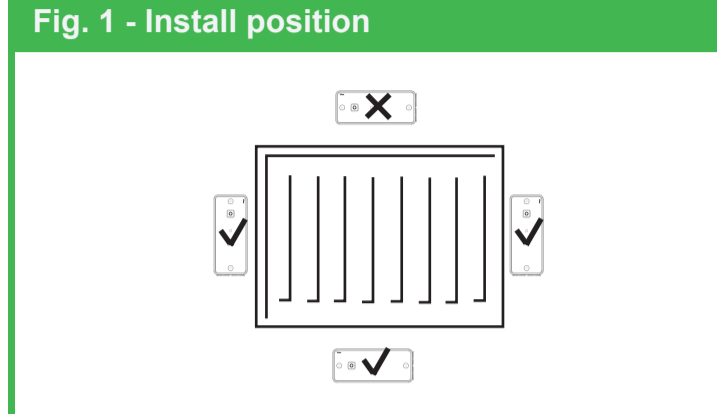

Fig. 1 - Install position
- The 16 Amp Relay must be installed below or to the side of any heat source. – Fig. 1,